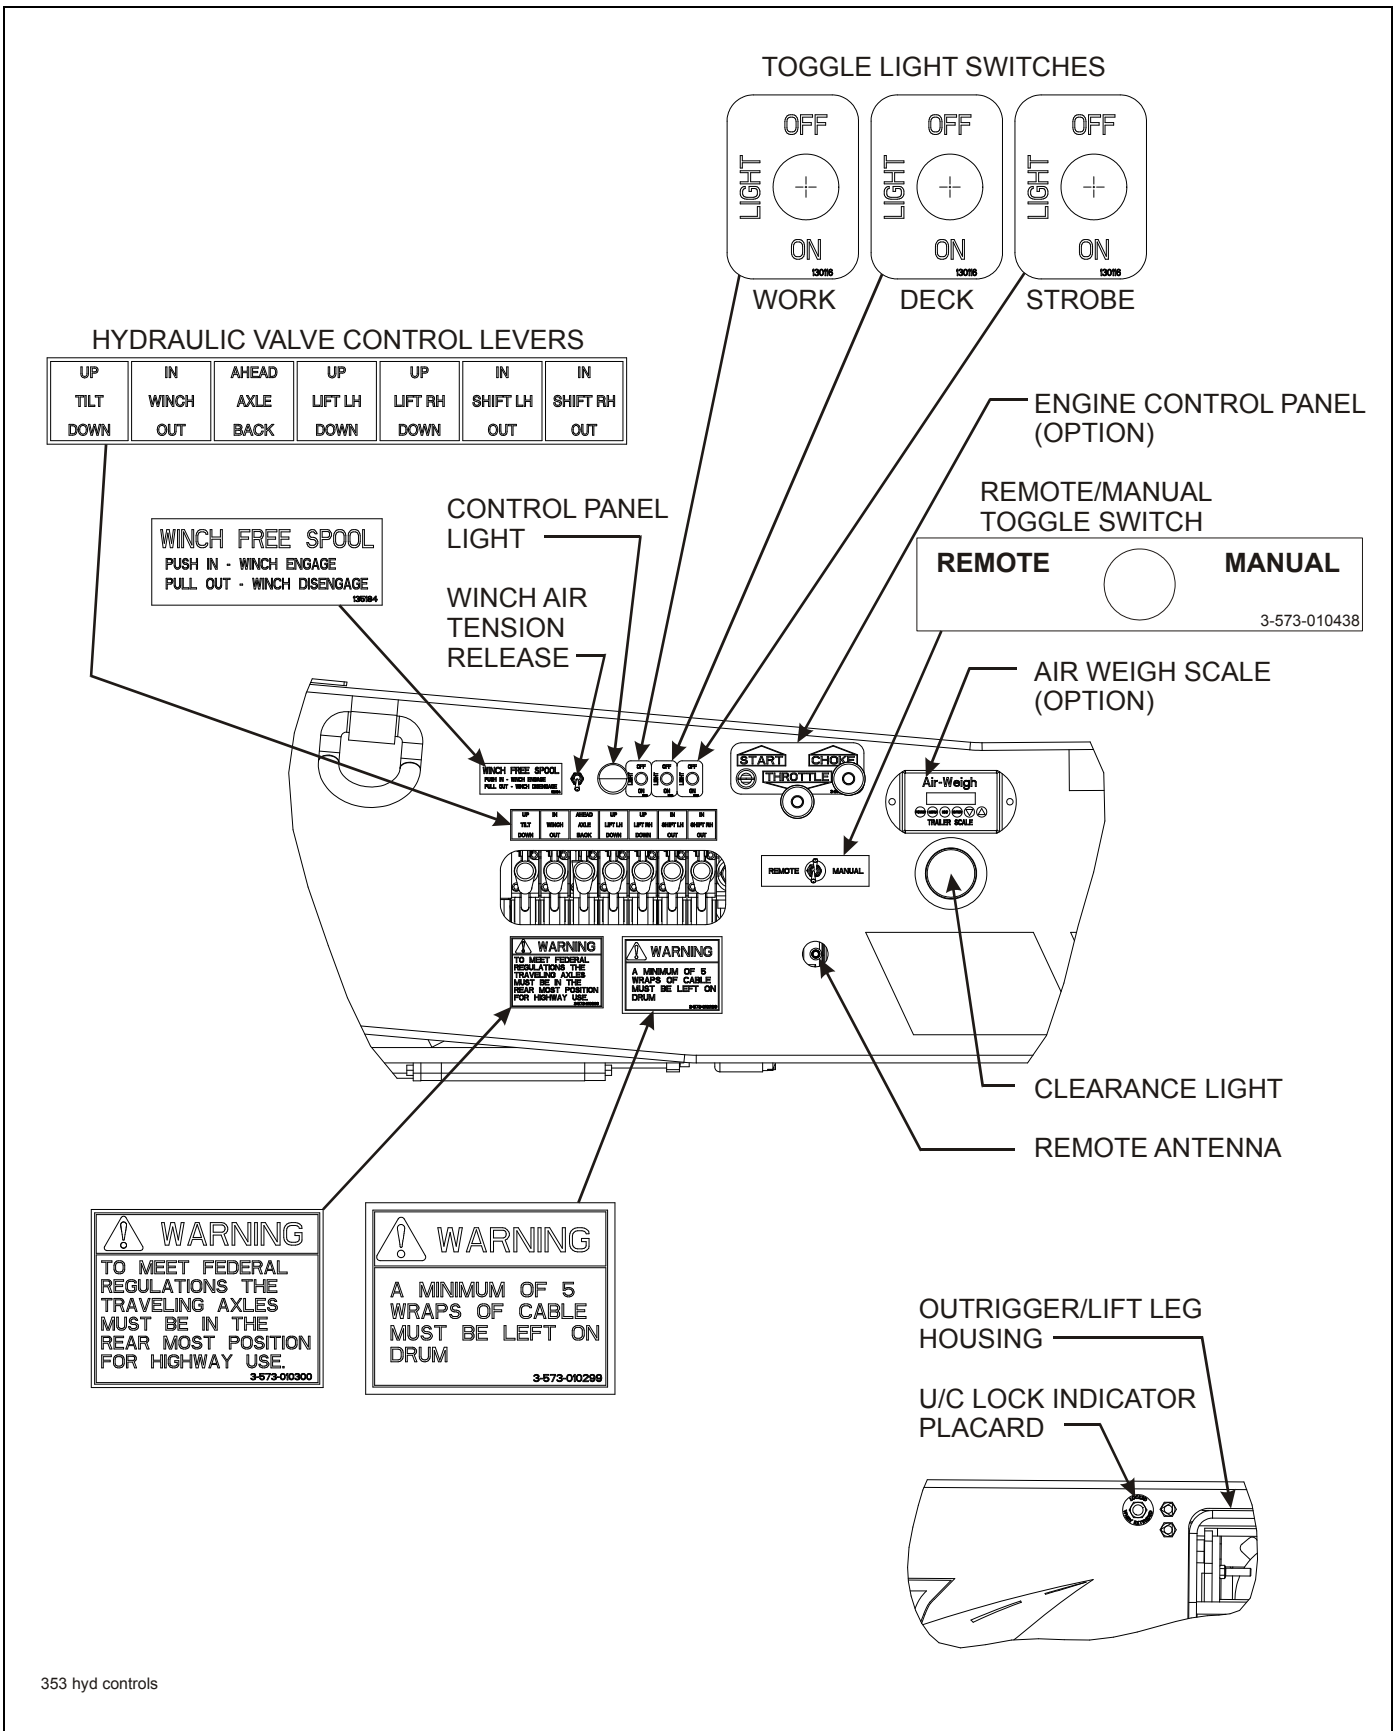

Figure 3-4: Hydraulic Controls
- b. For pin drop landing gear, activate the **TRAILER TILT** lever “UP” until weight is off the landing gear (See Figure 3-4.) Raise landing gear. (See “Trailer Tilt Lever” on page 3-9 for operating instructions.) Secure each leg with a park stand retaining pin in the full “up” position before transporting.